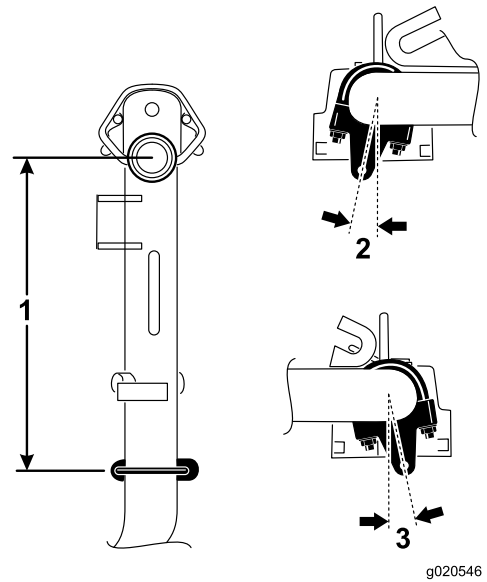

Figure 5
- On lift arm numbers 1, 4, and 5, position the chain brackets and U-bolts 38.1 cm (15 inches) behind the center line of the pivot knuckle (Figure 5).
- On lift arm numbers 1 and 5 the brackets should be rotated to the right 10 degrees from vertical (Figure 5).
- On lift arm number 4 the bracket should be rotated to the left 10 degrees from vertical (Figure 5).